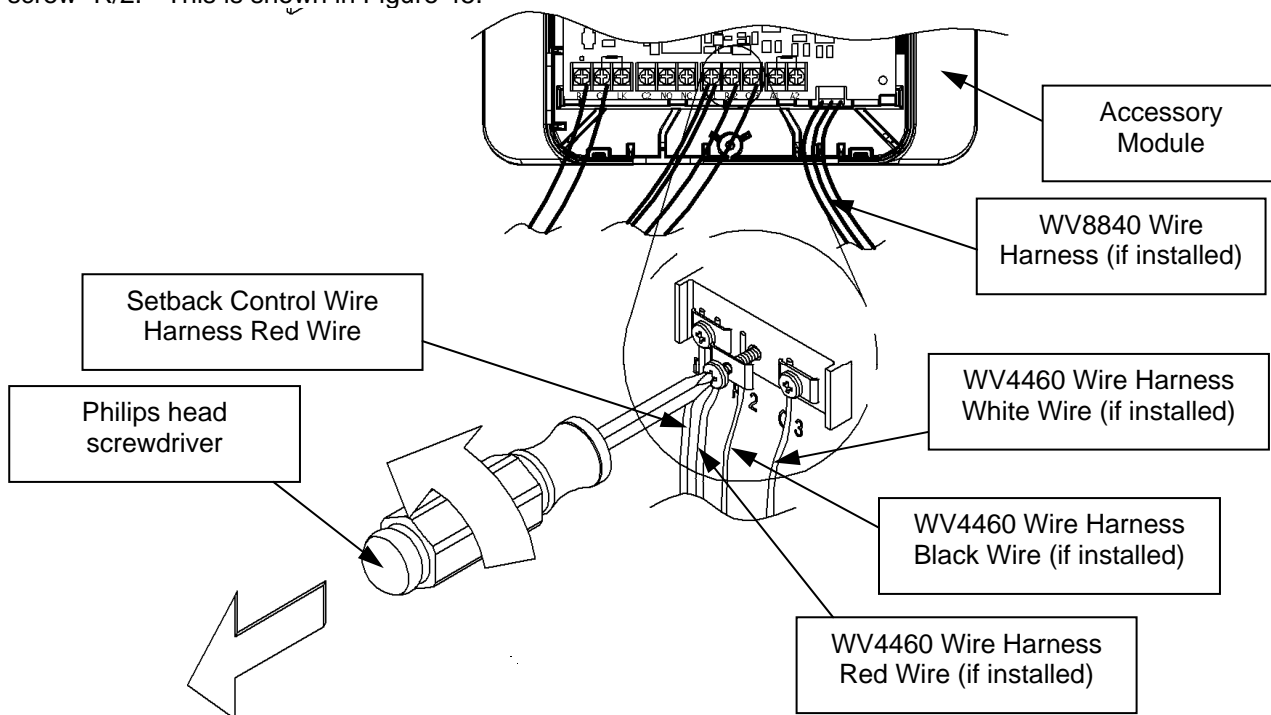

Figure 45
Step 18: If the water heater gas control has an intermittent pilot (WV4460 gas control), the connection, "R/2," is already being used. This same connection point is used to connect the Setback Control. Loosen the screw "R/2." This is shown in Figure 45.